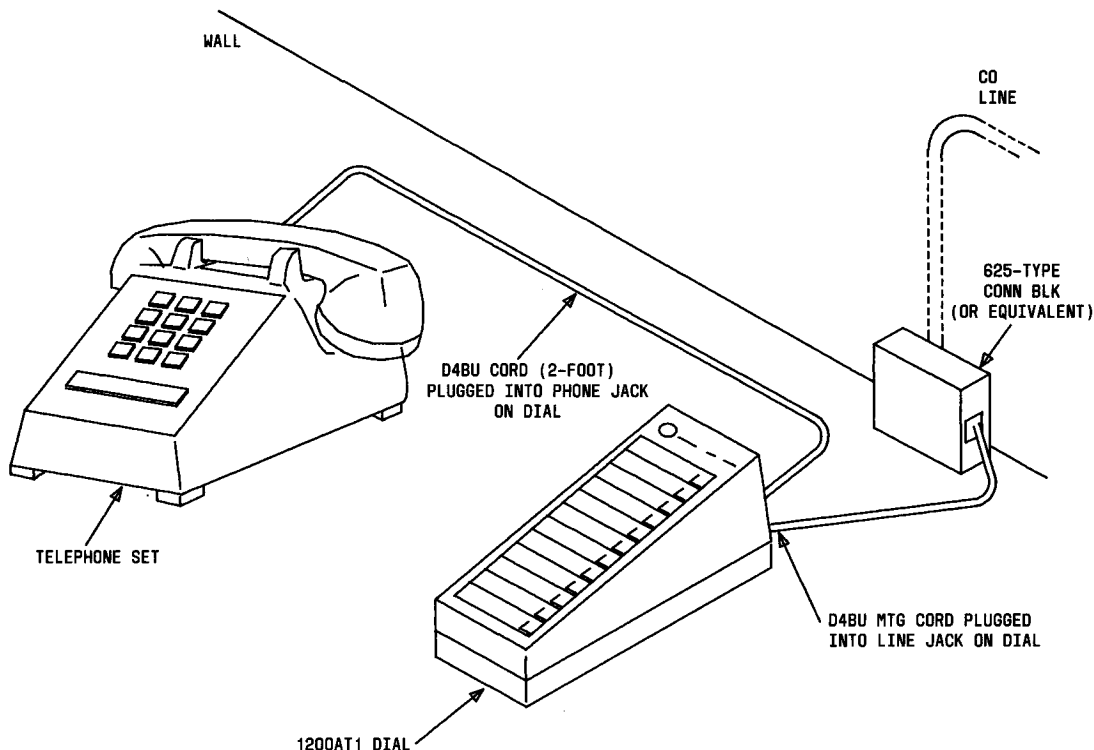

Fig. 3—Recommended Installation for Single Line Modular Desk Type Telephone Set
- 3.04 Plug one end of the standard D4BU mounting cord into LINE jack located under battery cover of the dial and other end into connecting block from CO. Plug one end of the two-foot D4BU telephone set mounting cord (furnished with the dial) into the PHONE jack on adjunct dial and plug other end of the cord into the telephone set mounting cord jack (Fig. 3).